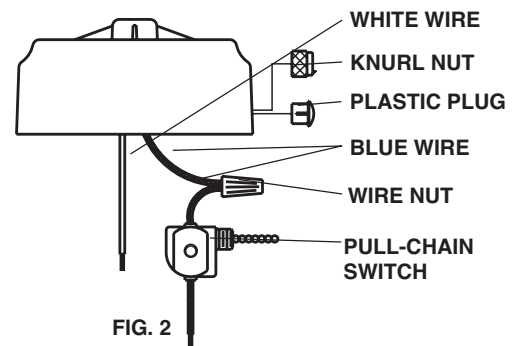

FIG. 2
2. Remove the plastic plug from the fan switch housing. Install the light on-off switch by inserting the chain through hole, from the inside. Pass the switch threads into the hole and screw the knurl nut onto the switch. Hand tighten firmly. See FIG. 2